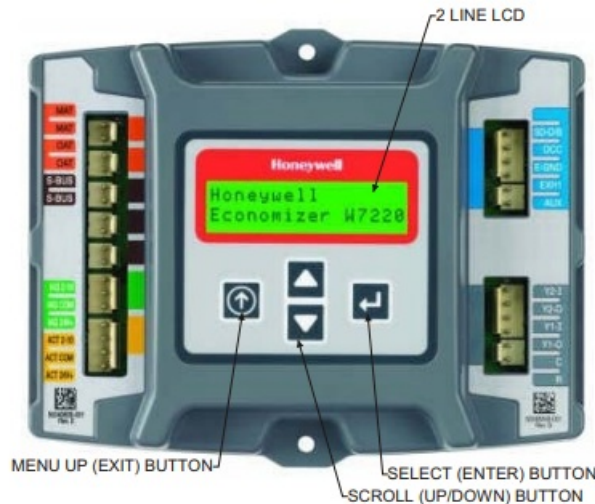

Figure 7
- The four navigation buttons illustrated in Figure 7 are used to scroll through the menus and menu items, select menu items, and to change parameter and configuration settings.